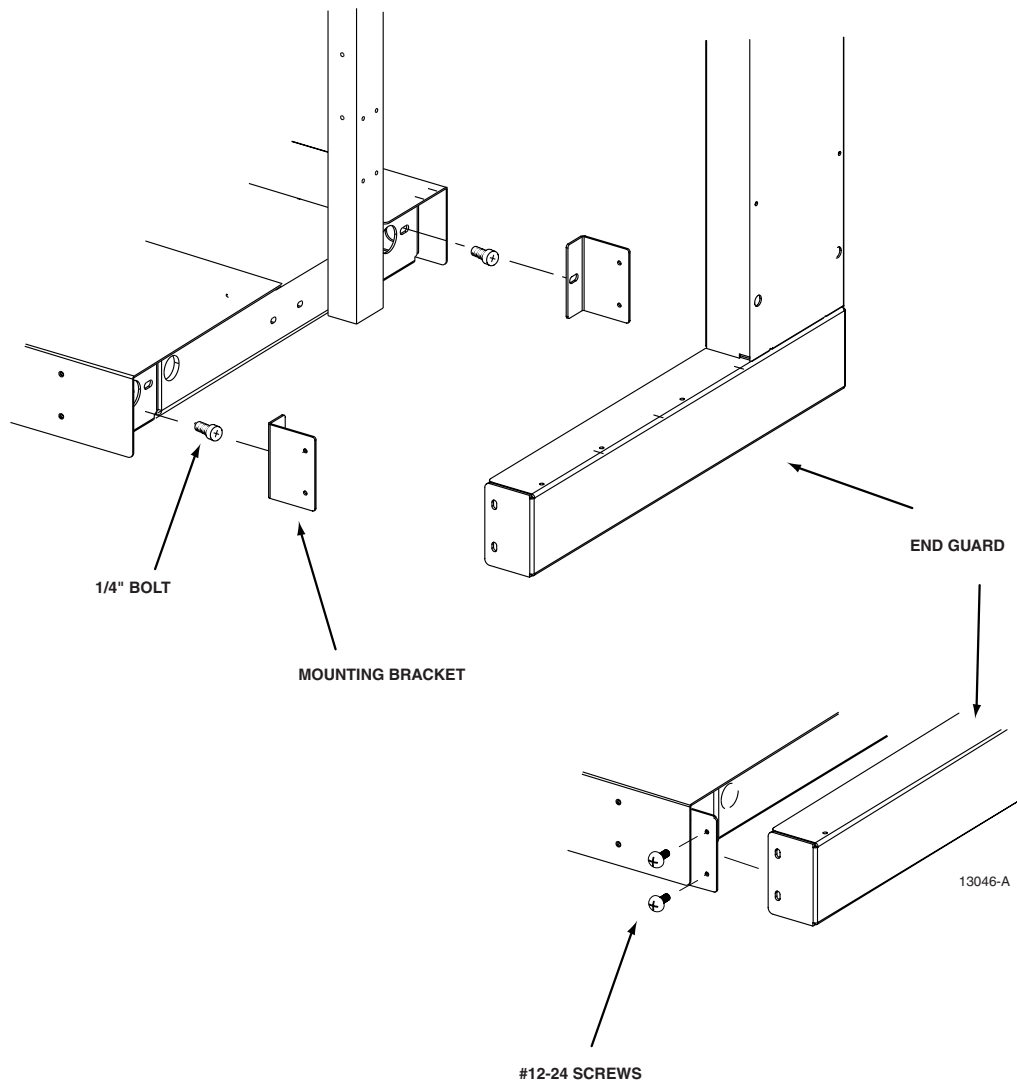

Figure 4. Attaching an End Guard to the FOTSB
2. Secure the mounting brackets (supplied with the end guard) to the storage bay using the 1/4" bolts, lock washers, and nuts as shown in Figure 4.